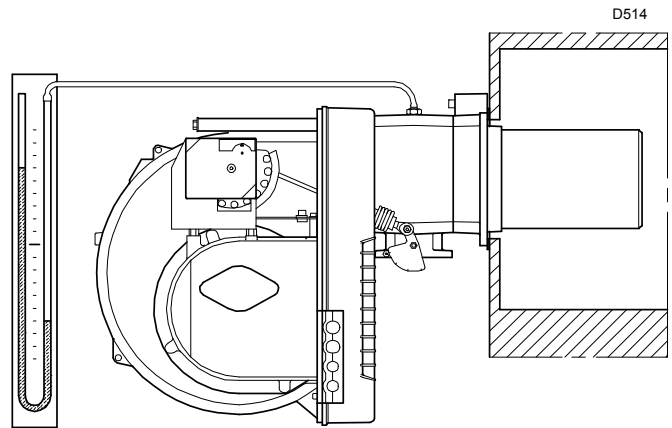

Fig. 25
- Fit a U-type pressure gauge (Fig. 25) to the gas pressure test point on the pipe coupling.
Once the above steps are completed, the burner should ignite. If the motor starts but the flame does not appear and the control box goes into lockout, reset and wait for a new ignition attempt. If ignition does not occur, it is possible that gas is not reaching the combustion head within the safety time period of 3 seconds. Therefore, it is necessary to increase gas ignition delivery. The arrival of gas to the sleeve is indicated by the U-type pressure gauge (Fig. 25). If the burner locks out again, refer to chapter "Faults - Possible causes - Solutions" on page 35. Once ignition has taken place, proceed with global calibration operations.
As a general rule, it can be seen from the Tab. F on page 20, just read the gas pressure on the pressure gauge, see Fig. 25, and follow the indications given on "Gas pressure" on page 20.